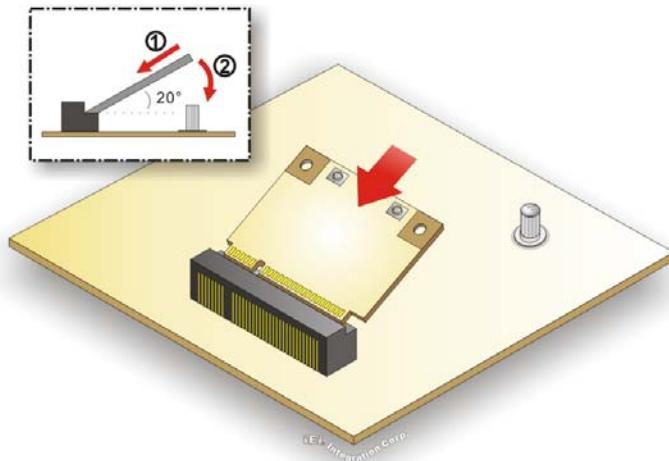

Figure 3-7: Inserting the WLAN Module
Step 5: Insert into the socket at an angle. Line up the notch on the WLAN module with the notch on the slot. Slide the WLAN module into the slot at an angle of about 20° (**Figure 3-7**).